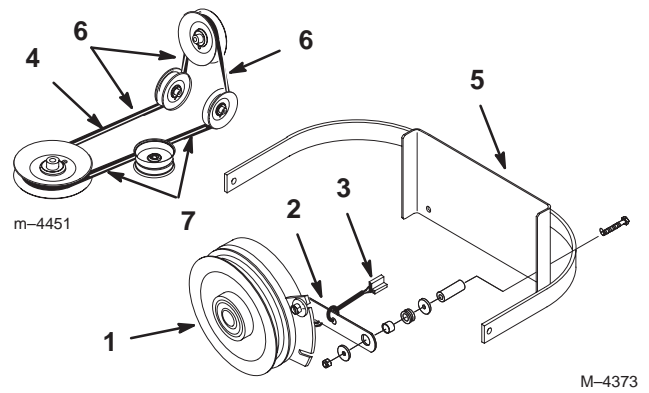

Figure 66
2. Remove the clutch retaining strap from machine frame and unplug clutch terminal from wire harness (Fig. 66).
3. Remove PTO drive belt from rear idler arm and front idler pulley assembly. Remove the PTO drive belt (Fig. 66).
4. Place new drive belt over clutch, around rear idler pulley, installed into rear idler arm assembly, installed into front idler pulley assembly and onto top center pulley (Fig. 66).
Important Check the amount of twist in belt between pulleys. Make sure it is only what is specified in figure 66.
5. Install clutch retaining strap and plug clutch terminal into main wire harness (Fig. 66).